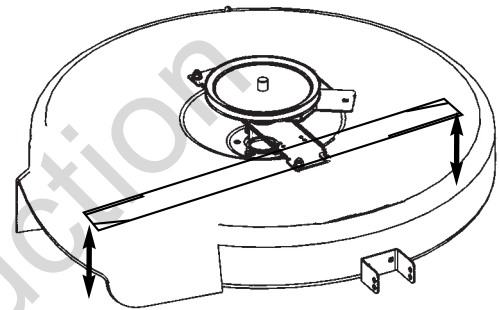

Figure 48. Orient Blades Side-to-Side
4. Set the cutting height to mid position. Arrange the mower blade so that it is pointing from side-to-side (Figure 48).